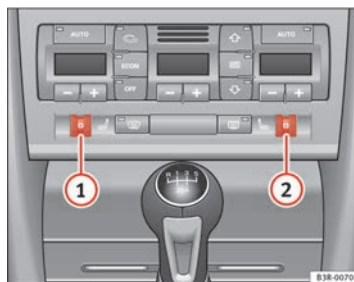

Fig. 144 Detailed view of instrument panel: Thumbwheel controls for seat heating
Turn thumbwheel **①** or **②** ⇒ fig. 144 to switch on and adjust the heating on the left or right front seats.